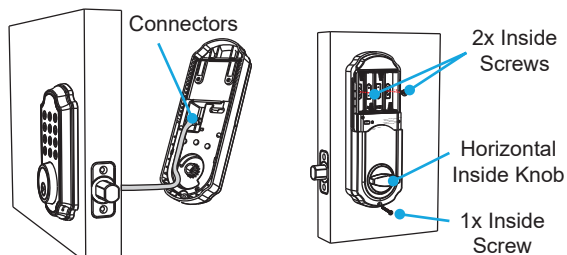

Fig. 9
Step 5. Gently insert the power cable connector into the connector of the inside section to snap them together. And collect the connected power cable into the slot of inside section (Fig. 9).
- (N) Note the placements for the different sized screws (Fig. 9). Make sure all screws are tightened.